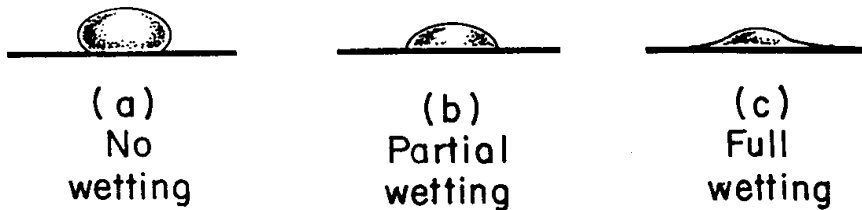

Fig. 4 How to tell if solder is wetting the surface.
7. Compare Figure 4 (a) with (c). The way to tell if solder is going on well is by its **appearance**. The hot solder must flow out to thin edges as in (c). If it does, you can be sure that the solder is wetting the surface. The solder must not **hump** up as in (a) or as in (b). The partial wetting of the surface shown in (b) is not acceptable.